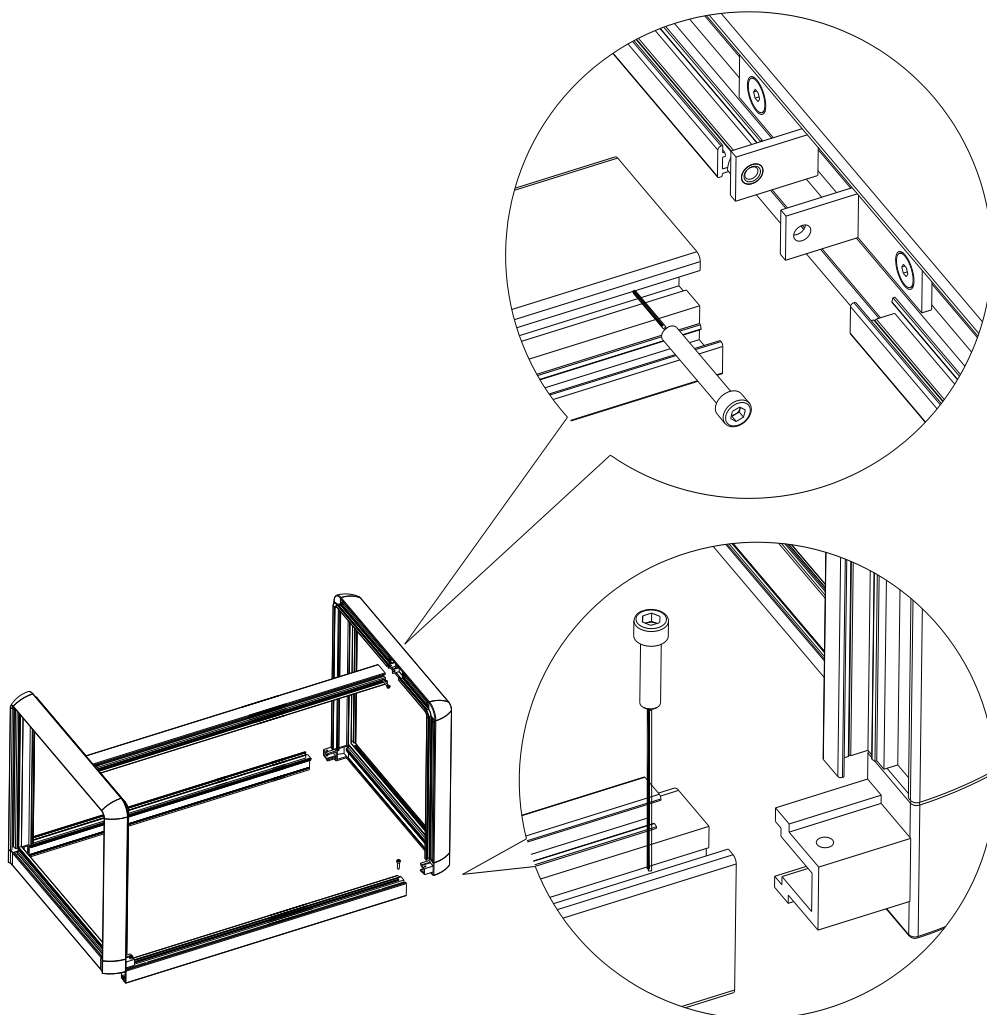

Figure 30: exploded view sound shield W-SC 6 / SC 10
- 2 The sound shield can be disassembled according to exploded view below (figure 30).